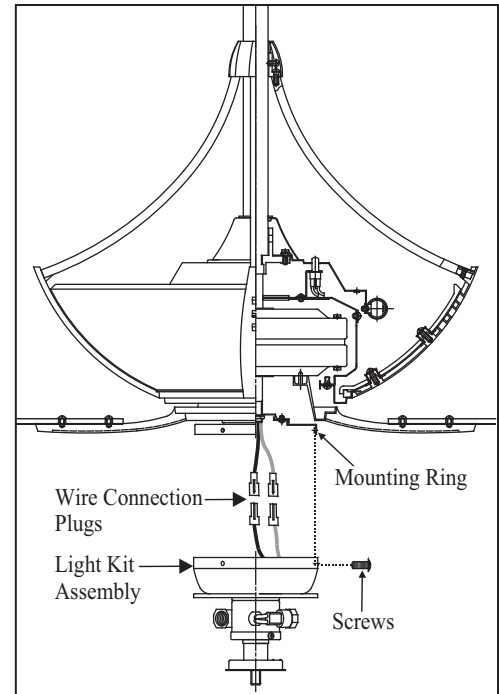

Figure 18
2. Raise and hold the light kit close to the mounting plate and proceed to do the wire connections. Connect the white wire connectors from the light plate and fan, follow the same procedure with the black wire connectors. (Fig. 18)
3. Carefully push all wires back into the mounting plate, place the key holes on the light kit over the 2 screws previously loosened from the mounting plate, turn light kit until it locks in place at the narrow section of the key holes. Secure by tightening the 2 screws previously loosened and the one previously removed. (Fig. 18)